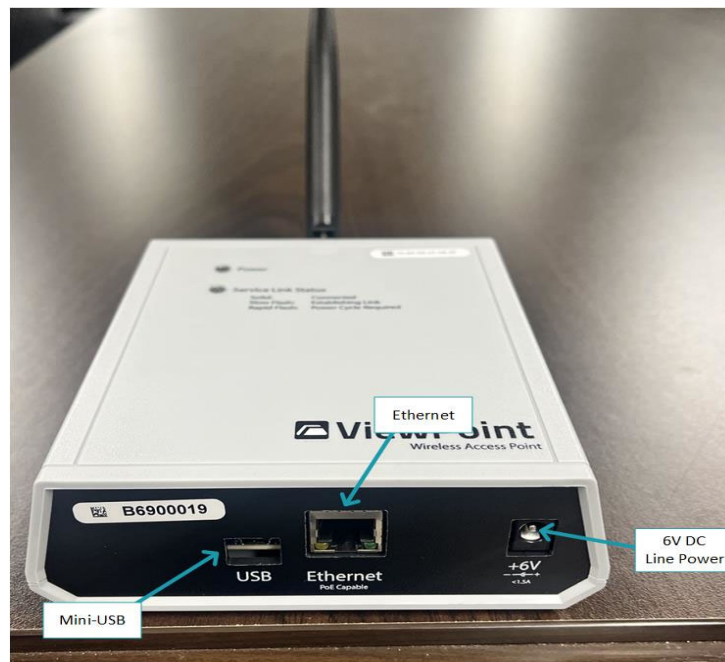

Fig. 3.1-2 – Access Point 1.1 Equipment Details
- Fig. 3.1-2 – Access Point 1.1 Equipment Details